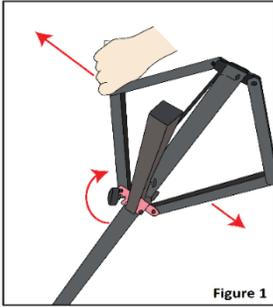

Figure 1
Step 1 - Take the tripod stand and open the legs wide, push it down as this will be the base of the stand. Make sure to tighten the knob where the tripod legs meet on the stand. (See **Figure 1**). Its very important that the legs must be spread all the way out and down for max stability.